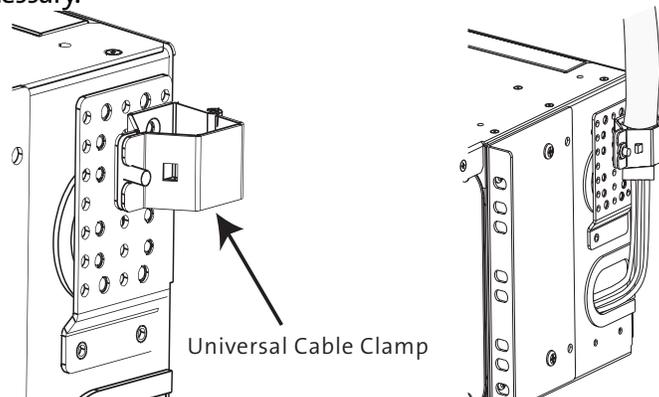

Figure 3
Step 2: Attach the UCC clamshell to the strain-relief bracket as shown in Figure 3.